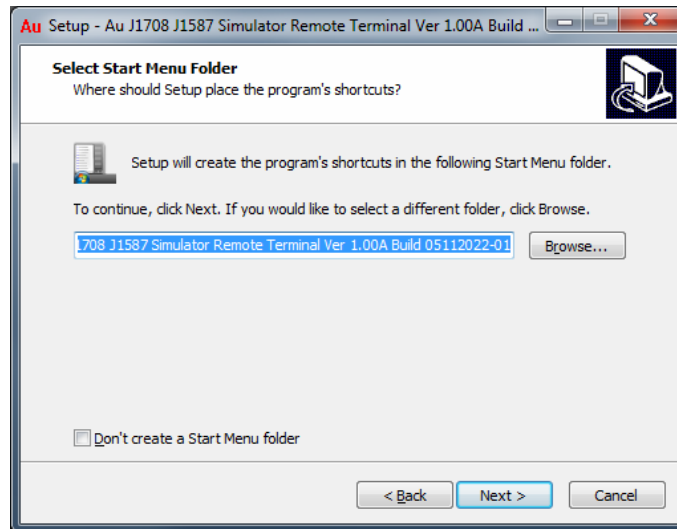

Figure 6-4
4. A “Select Start Menu Folder” window will pop up. Use the default folder, and click “Next” to continue (Figure 6-4).